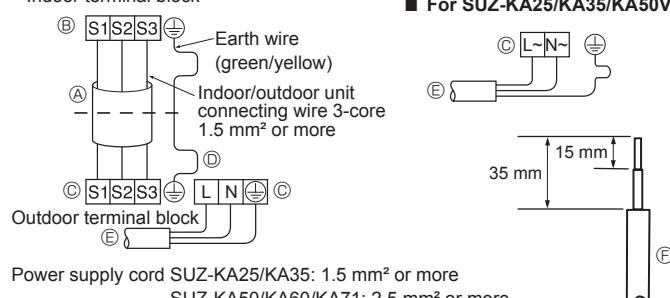
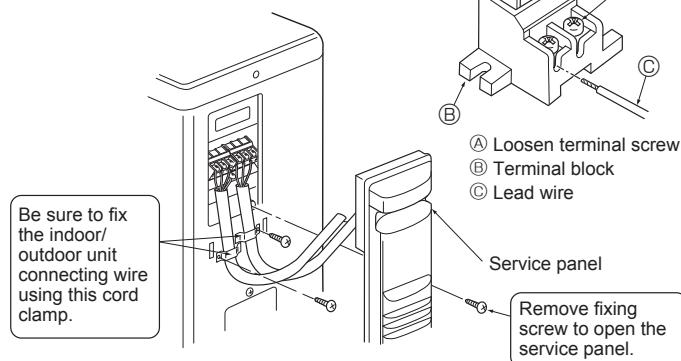

**Fig. 6-1**
**Fig. 6-2**
### 6.1. Outdoor unit (Fig. 6-1, Fig. 6-2, Fig. 6-3, Fig. 6-4)
- ① Remove the service panel.
- ② Wire the cables referring to the Fig. 6-1, Fig. 6-2, Fig. 6-3 and the Fig. 6-4.
- Perform wiring as shown in the diagram to the lower left. (Procure the cable locally) (Fig. 6-2)